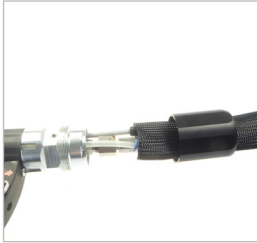

Figure 14
- ▶ Unscrew the cold protection from the swivel joint of the WEH® Fueling nozzle and pull the cold protection over the already mounted components and over the braided protection hose (Pos. 1) (Figure 14).